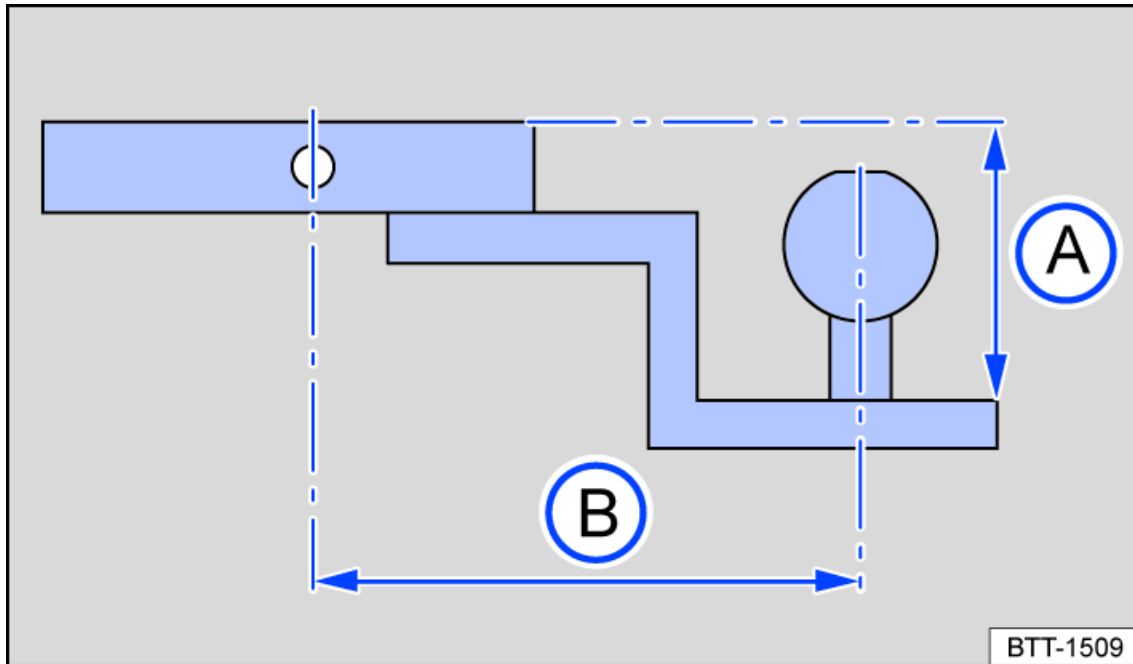

Fig. 182 Dimensions of the ball mount holder and receptacle.
The mount requires a special shape and size of ball mount holder and ball mount. This affects both the suspended height of the ball coupling fig. 182 A and the distance between the socket pin and the ball coupling fig. 182 B.
- The suspended height fig. 182 A from the top of the ball mount to the top of the neck must be at least 25.4 mm (1 inch) and must not exceed 73 mm (2⁷/₈ inches).
- The distance between the socket pin and the ball mount fig. 182 B must not exceed 178 mm (7 inches) from the middle of the ball mount to the middle of the eye of the pin.